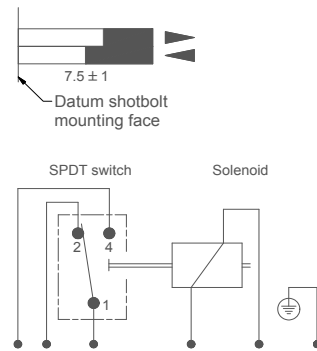

Fig. 6 Snap action change over switch
- Snap action switch rating 250VAC 5A – see Fig. 6